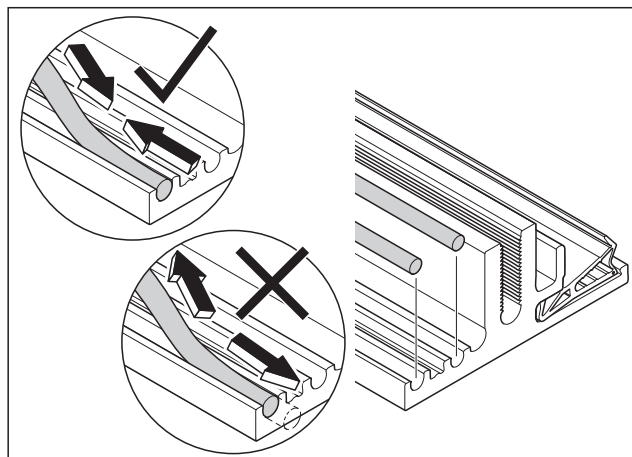

Fig. 25 Example of attaching silicone seals to a profile
2. If necessary, cut the silicone seals to size as needed (Fig. 25).